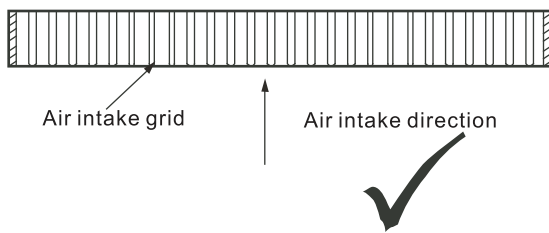

Figure 3.11
- 1) Pay attention to maintain the parallelism between the air grid angle and the air intake direction when you make the air intake panel of the air return box. Refer to Figure 3.11.